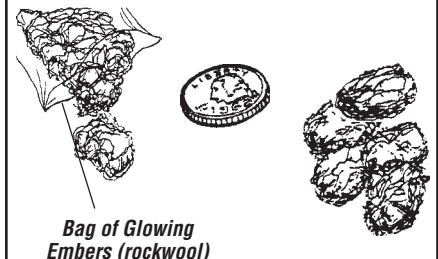

Figure 7 - Glowing Embers
4. **Placement of Glowing Embers** - Separate the Embers (rockwool) into pieces about the size of a quarter (see *Figure 7*). Keep the pieces fluffed up, not matted. Distribute these pieces over the surface of the burner, as shown in *Figure 8 or 9*. Do not use more than is necessary. Ensure that the main burner ports remain uncovered by the ember material.